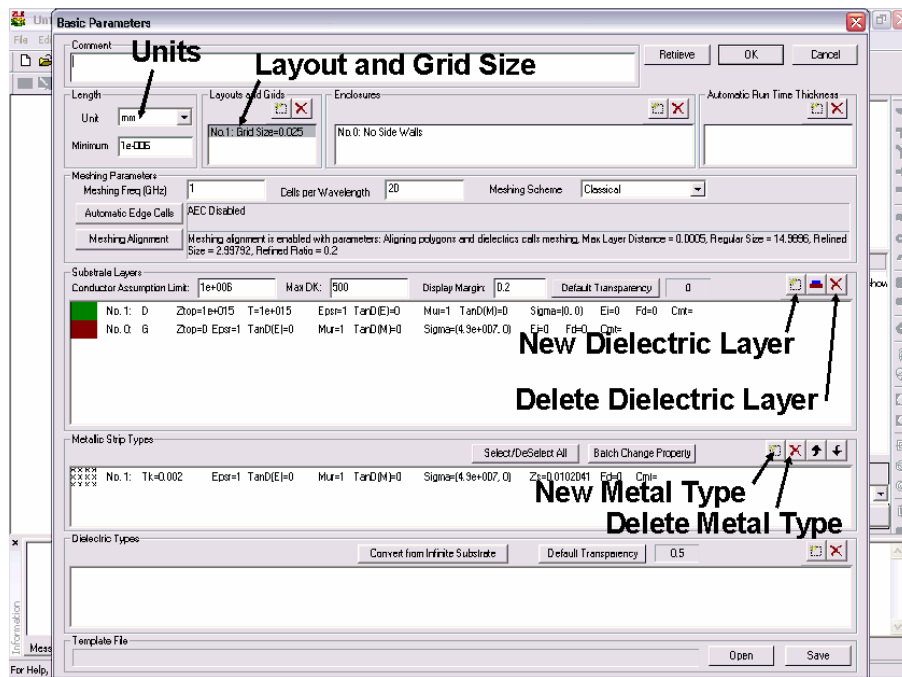
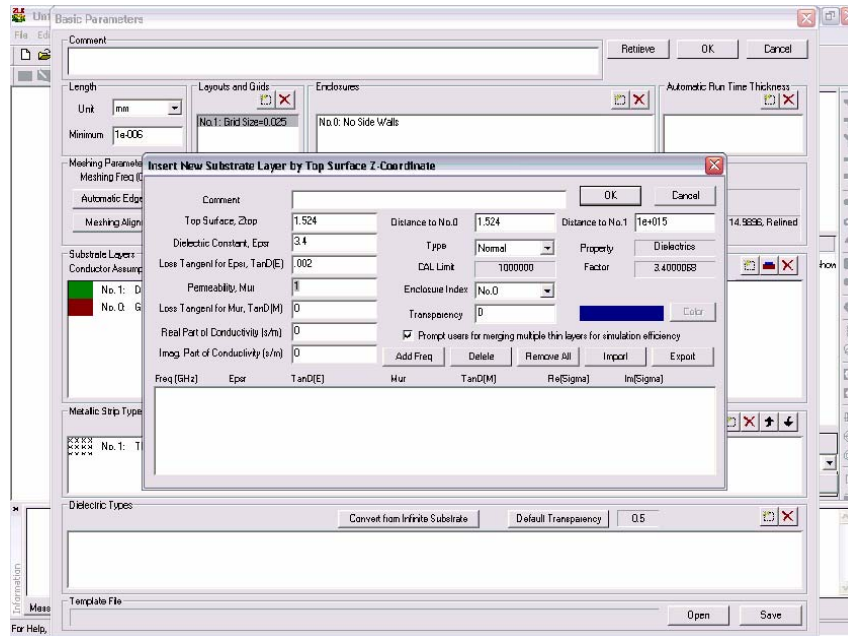

Figure 3 Basic parameter definition.
Figure 4 Defining the parameters of the antenna substrate
- 4) The basic parameter definition window pops up. You should see something similar to Figure 3. In this window you can define basic parameters of the simulation such as the dielectric constant of different layers, the units and layout dimensions, and metal types among other parameters. In “Substrate Layer” section note that two layers are automatically defined. At  $z=0$ , the program automatically places an infinite ground plane (note the material conductivity at  $z = 0$ ) and a second layer is defined at infinity with the dielectric constant of 1.
- 5) In the basic parameter definition window, click on “New Dielectric Layer” button (  ) as is shown in Figure 3. You will see a window similar to the one shown in Figure 4. Enter the basic dielectric parameters in this window: